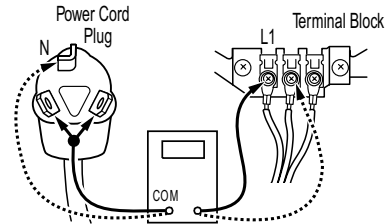

Figure 4. Plug-to-terminal connections.
4. With an ohmmeter, check for continuity between the neutral (N) terminal of the plug and the center contact on the terminal block. See Figure 4.
5. In a similar way, check which terminal of the plug is connected to the left-most contact on the terminal block and make a note of it. This will be L1 (black wire) in the wiring diagram. See Figure 4 and the appropriate wiring diagram in Section 7.